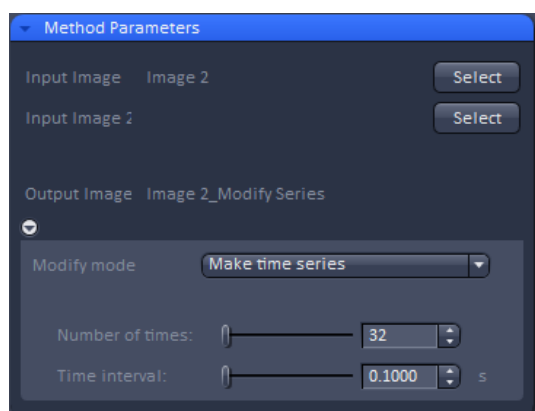

Fig. 398 Methods Parameter with Make time series selected in Modify mode
- Generate reference time series. In the Processing tool **Modify** choose under **Modify mode** the entry **Make time series**. Select the extracted image. Enter under **Number of times** and **Time intervals** the numbers from your original time series (Fig. 398) and press **Apply**. The result will be a time series with the same image at each time point.